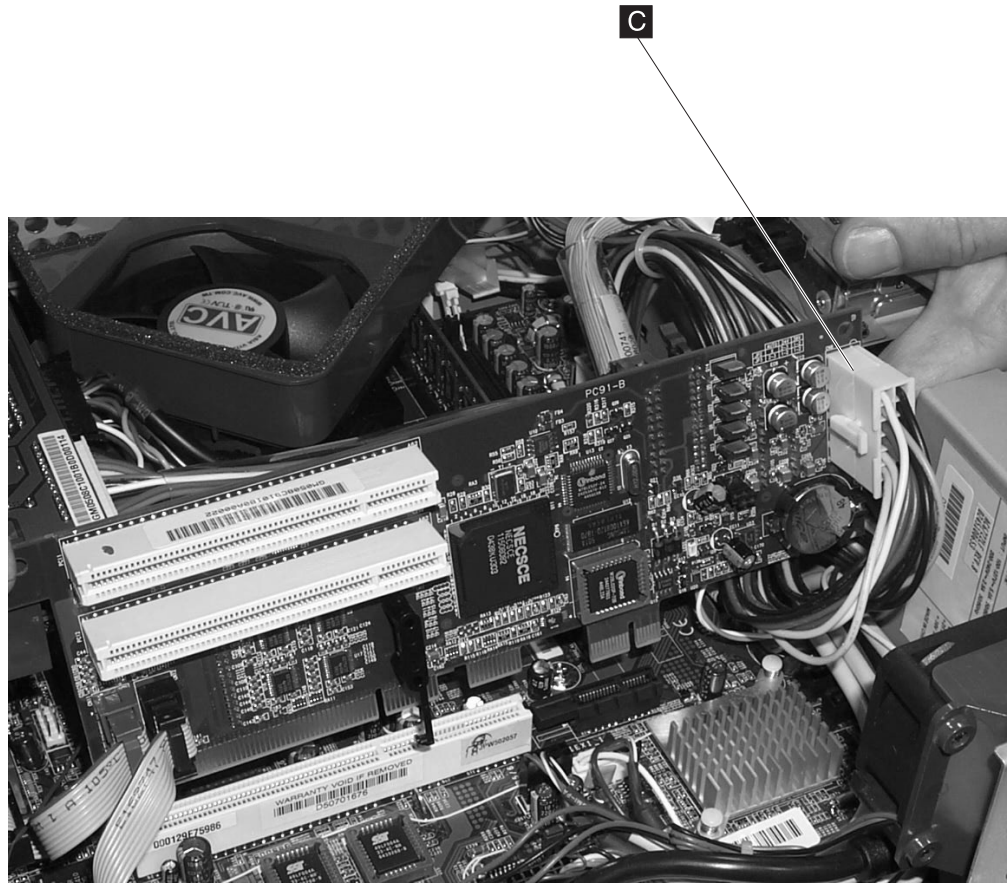

Figure 41. Power connector
7. Remove the power connector from the riser card. See **C** in Figure 41